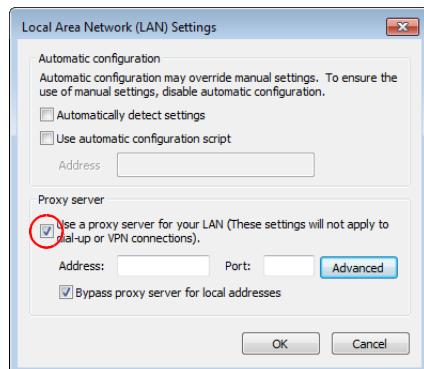

FIG. 142 Local Area Network (LAN) Settings dialog
2. Click **LAN Settings**. The *Local Area Network (LAN) Settings* dialog opens. If the Proxy server box is checked, go to Step 4. If the Proxy server box is not checked, check it before going to Step 4 (FIG. 142):